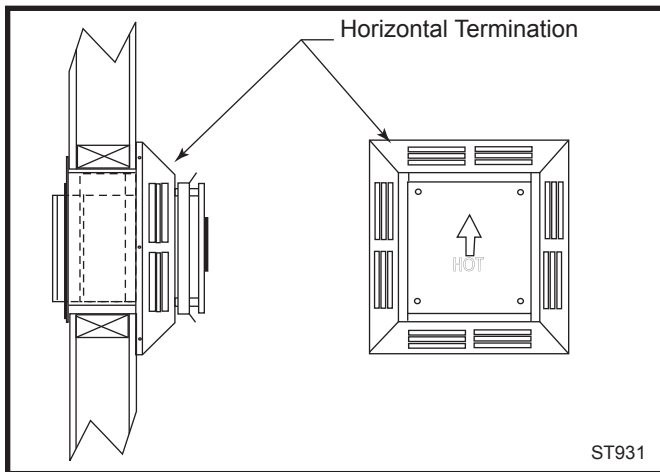

Fig. 44 Horizontal termination.
6. Install the horizontal termination to the exterior wall using four (4) all purpose screws through the holes located at each corner of the termination. Make sure the arrow (embossed on the front of the termination) is pointing up. (Fig. 44) If the house has vinyl siding,